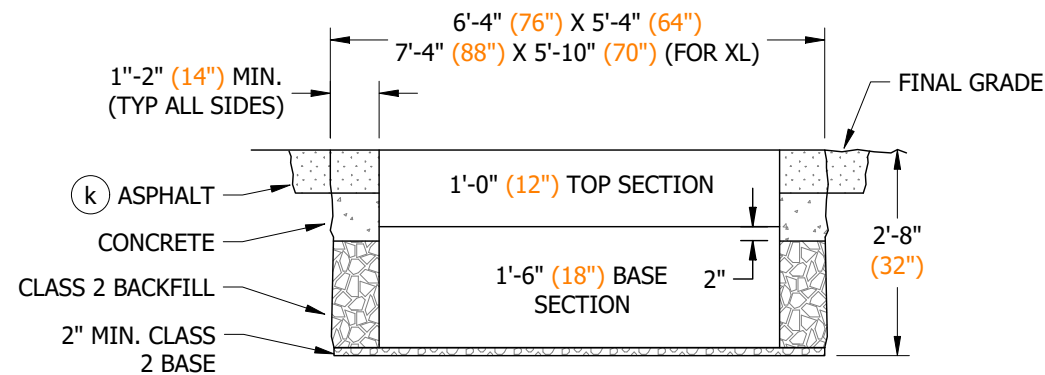

FIGURE 6
- B. AFTER THE LOCATION IS ESTABLISHED, MARK OUT DIMENSIONS FOR THE EXCAVATION WIDTH, LENGTH AND DEPTH PER FIGURES 6 & 7. THE WIDTH AND LENGTH DIMENSIONS GIVEN ALLOW EXTRA SPACE FOR SETTING THE SUBSTRUCTURE AND TAMPING THE BACKFILL.